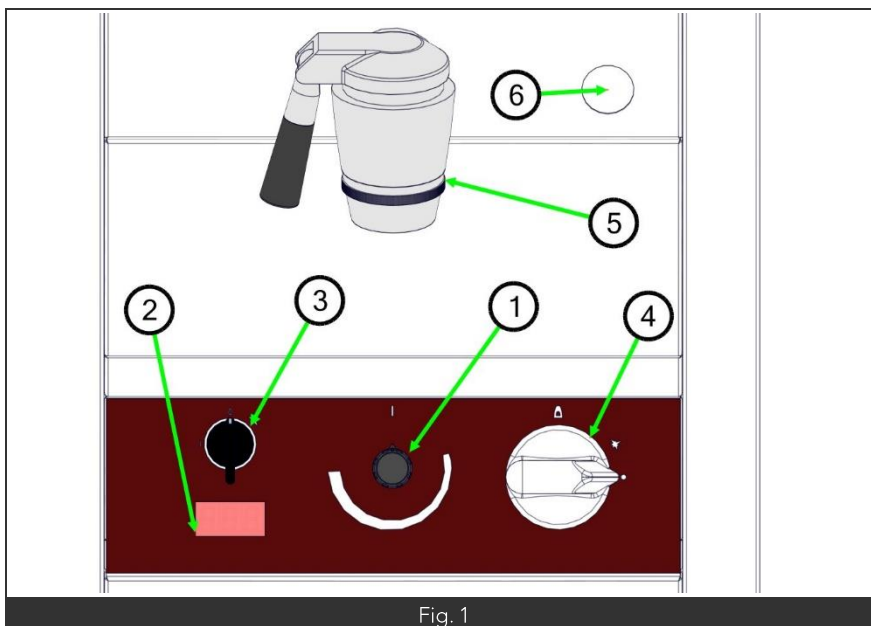
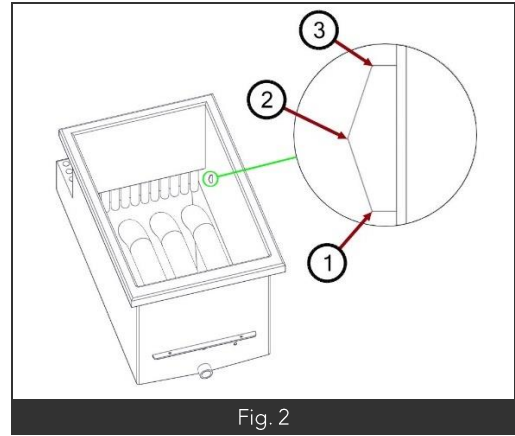

Fig. 1
Fig. 2
Firstly, please fill the bath with oil. As shown on Fig. 2, there is a mark inside the bath. Label 1 shows minimum level, label 2 shows average level, label 3 shows maximum level. It is mandatory that the oil level inside the bath remains between minimum and maximum level. Once this requirement is met, it is possible to proceed to the ignition, and pre-heat of the bath before to use it. If you don't respect this requirement, the appliance may over-heat (Too low oil level) or the oil bath may swarm and overflow (Too high level).
- 1- Put the gas tap (Fig. 1 – Label 4) to the ignition position (✱) and keep it pushed. In the same time, put the 3-positions switch (Fig. 2 – Label 3) to the ignition position (✱). Keep the gas tap pushed for at least 10 seconds, the cross-lighting burner lights up.
- 3- Ignite the main burner by positioning the 3-positions switch to "I" position. The main burner lights up and the electronic temperature regulation switches on (You can see the temperature display (Fig. 1 – Label 2) switches on).
- Put a container large enough under the draining tap of the appliance (Fig. 2 – Label 5).